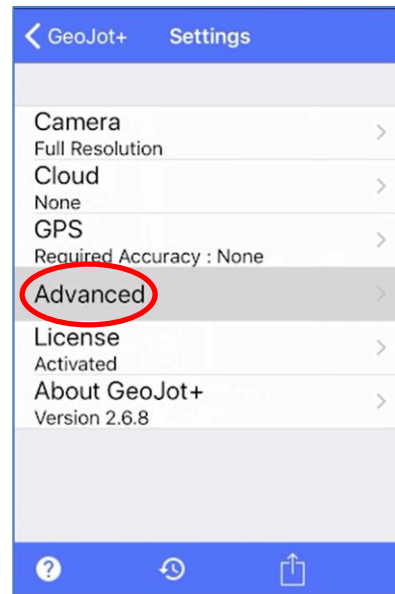

Figure 6
6. Select the **Advanced** menu (Figure 6)